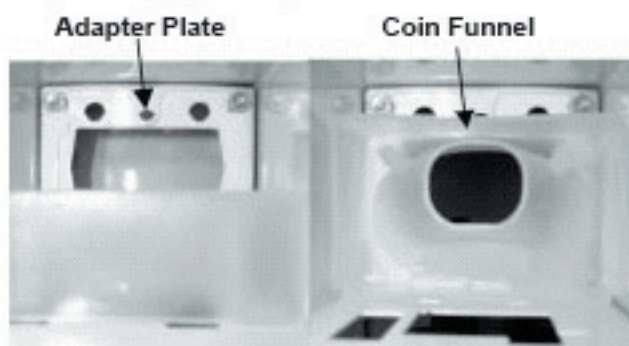

Fig. 2-37
5. Release the coin funnel from the meter case by releasing the plastic retaining clips and turning the funnel up as shown, then remove the funnel through the timer access panel. (Fig. 2-37)